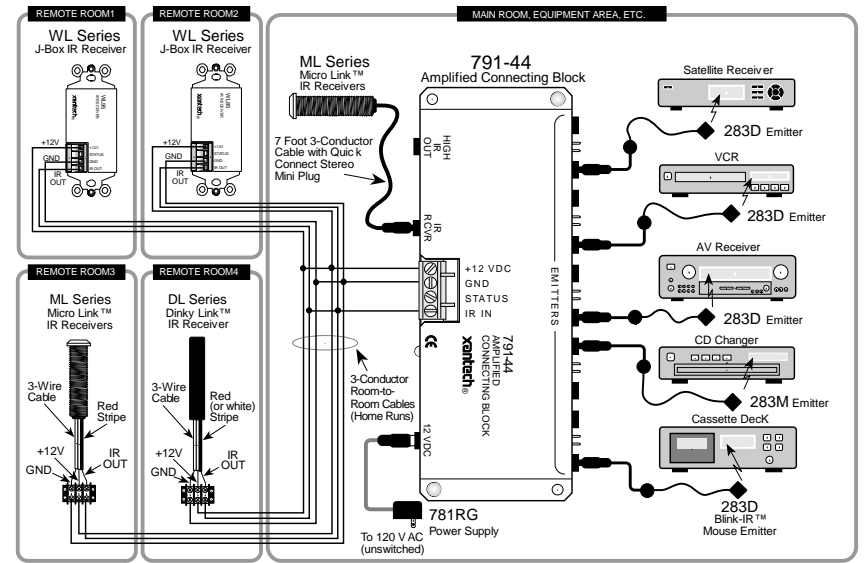

Figure 4 - Advanced Wiring Configuration using WL series, ML and DL series, 781ERGPS Power Supply and multiple 283D's
WL95 may also be used in conjunction with other Xantech IR Receivers by simply wiring in parallel on a Connecting Block such as the 791-44 Amplified Block as shown in Figure 4 below.
1. Connect all IR Receivers in parallel at the terminals of the connecting block as shown in **Figure 4** below.